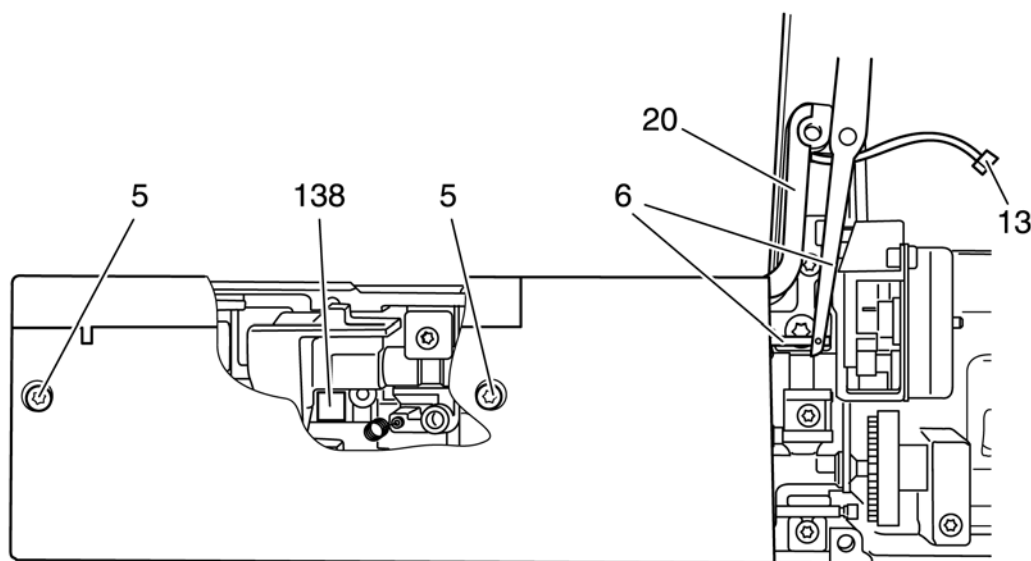

Fig. 109
- Unscrew and remove both screws 5 from the free-arm cover (fig. 109).
- Disengage both feed regulators 6 using a small screwdriver (fig. 109).
- Remove cable guide 20 (fig. 109).
- Engage both feed regulators 6 (fig. 109).
- Mount connection plug 16 on the circuit board of the front housing panel (fig. 109).